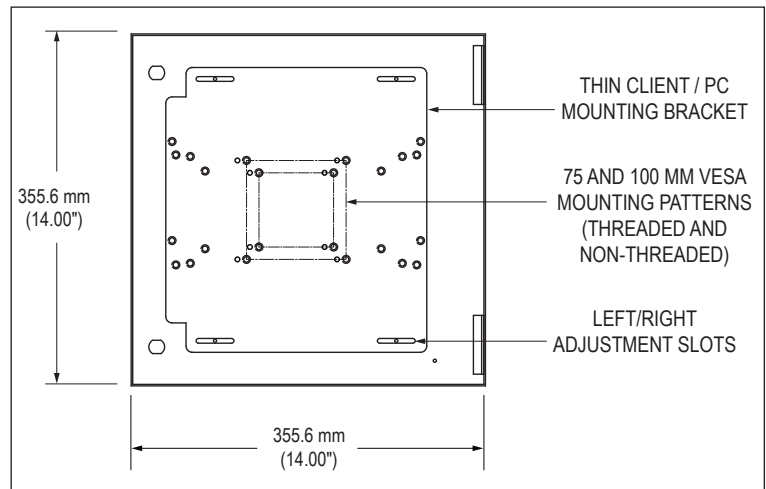

FIGURE 3 – INSIDE VIEW OF ACCESS DOOR
4. Refer to Figure 3. If you will be using a Thin Client or PC, install it at this time.